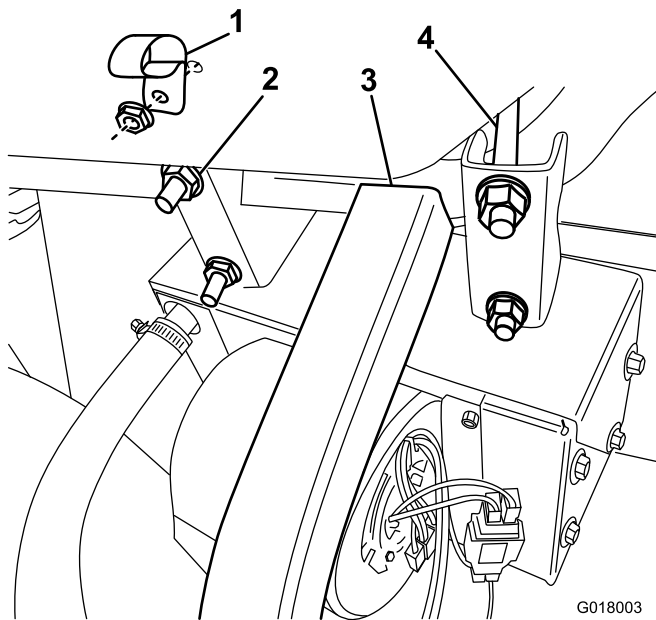

Figure 16
3. Attach the heater and bracket assembly onto the front frame tube, snug against the u-frame, using the square u-bolts and flange nuts provided (Figure 16).
- Attach the r-clamp to the glove box with a flange-head screw and nut (Figure 16).